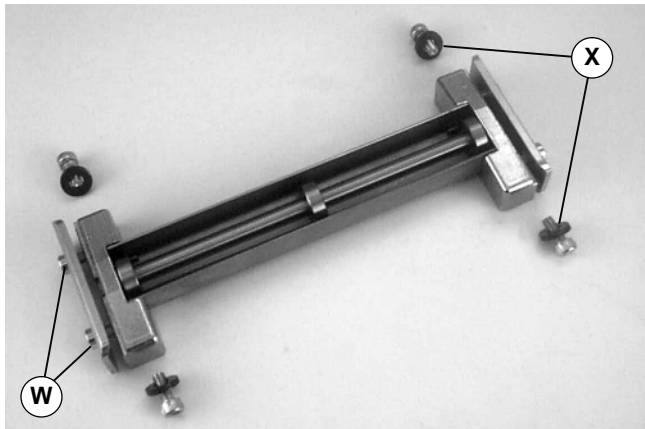

Figure 15
### 2. Loosen screws (W of Figure 15) and remove screws and washers (X).